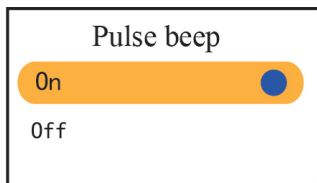

Figure 4.10C Pulse beep setup
- Pulse beep: To turn on/off pulse beep, the factory default is "On", as shown in figure 4.10C. If the global sound is enabled by longtime